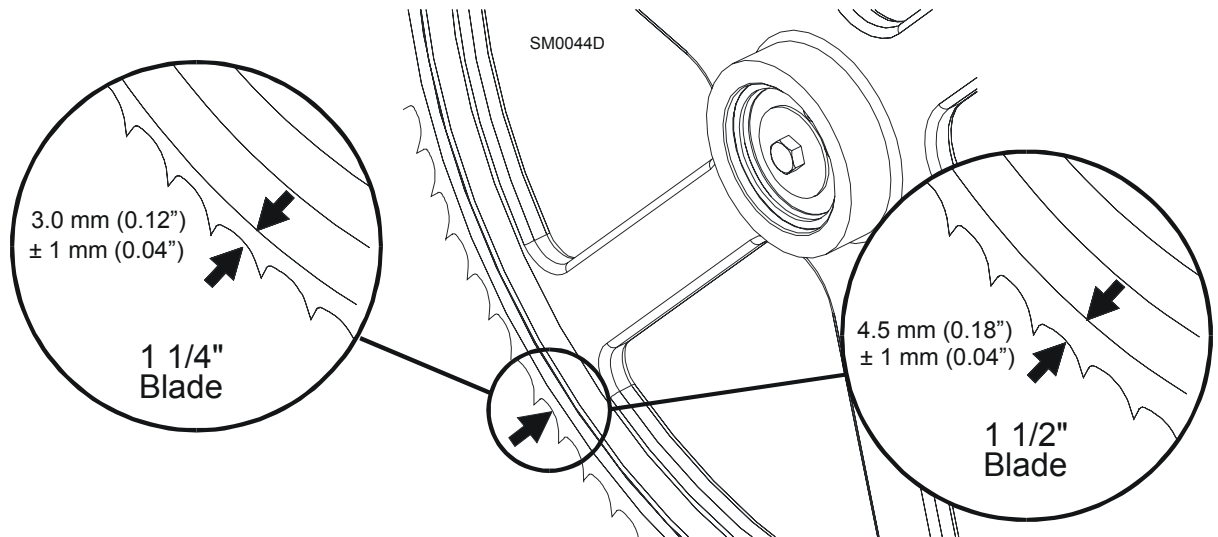

FIG. 7-19
**See Figure 7-19.** The horizontal tilt of the blade wheel should be adjusted so that the gullet of a 1-1/4" blade is 1/8" (3 mm) out from the front edge of the wheel ( $\pm 1/26$  [1mm]). The gullet of a 1-1/2" blade should be 3/16" (4.5 mm) out from the front edge of the wheel ( $\pm 1/26$  [1 mm]). Do not let the teeth ride on the wheels.